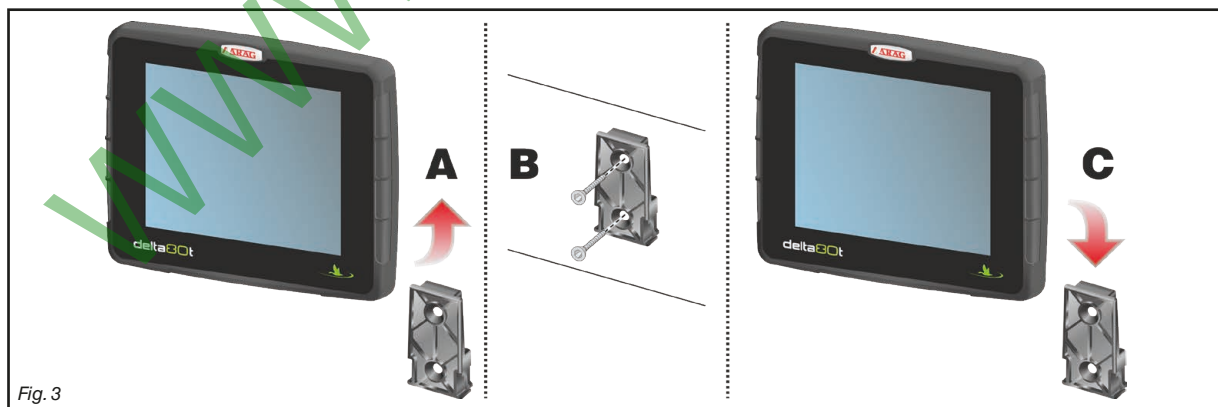

Fig. 3
The monitor must be mounted after having fixed the bracket at the desired location (the previous paragraph shows the bracket drilling template). The bracket must be slid out of the monitor seat (A, Fig. 3) and fixed using the supplied screws (B). Make sure the bracket is securely mounted, fit the monitor on it, and push it until it locks in place (C).